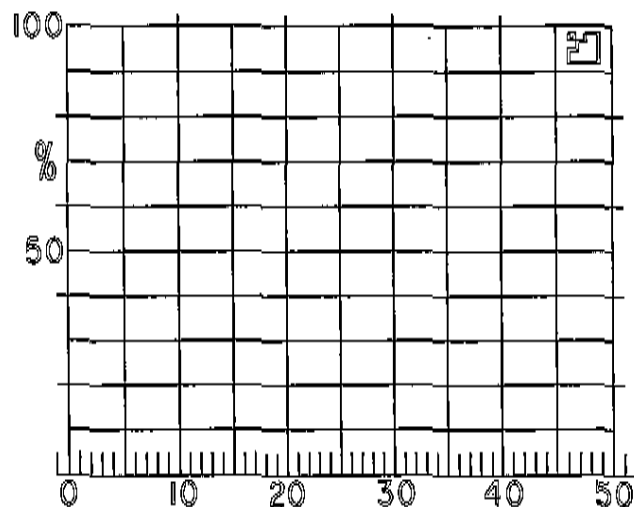

Fig.4 Internal graticule, type D9.
Internal graticule	type 125 (see Fig.4)
The tube can be mounted in any position. It must not be supported by the socket and not by the base region alone. The reference points on adjoining edges of the faceplate (see Fig.4) enable the tube to be positioned accurately in the front panel, with optimum alignment of the internal graticule with respect to the bezel.
- (1) Dimensions of faceplate only. The complete assembly of faceplate and cone (frit seal included) will pass through an opening of 85 mm x 72 mm (diagonal 107 mm).
- (2) The coil is fixed to the envelope with silicone rubber and adhesive tape.
- (3) The length of rotation coil connecting leads is min. 350 mm.
- (4) Reference points on faceplate for graticule alignment.(see Fig.4)
- (5) The centre of the final accelerator contact is situated within a square of 7 mm x 7 mm around the indicated position.
1. Because the frit seal is visible through the faceplate, and not necessarily aligned with the internal graticule, application of an external mask, or bezel, with open area of max. 70 mm x 56 mm is recommended. The internal graticule is aligned with the faceplate by using the faceplate reference points (see Fig.4).